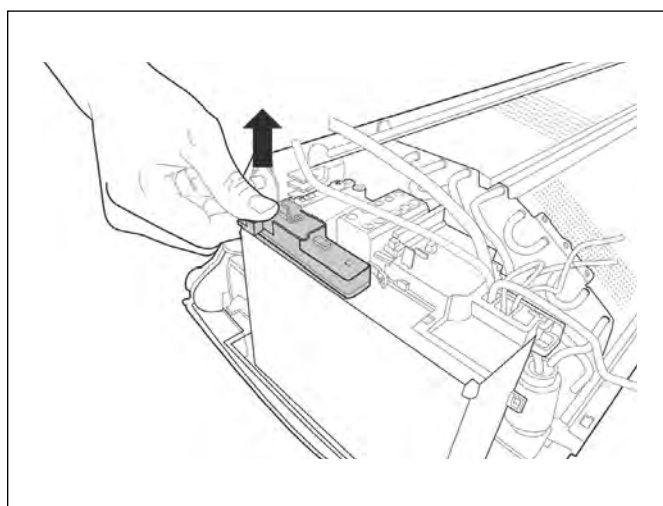

Figure 126
- Step 4: Pull control box cover as shown in Fig. 126